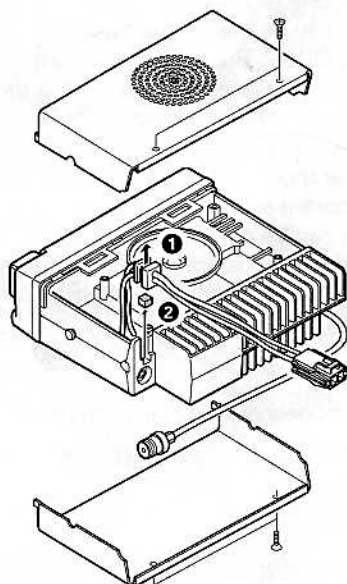

Fig. 1
1. Remove the upper and lower halves of the transceiver case, and lift the DC cord bushing (1) from the chassis.
2. Remove the pad as shown in Figure 1 (2).
3. Insert the KCT-19 cable (3) into the chassis (4).
- The wire harness band (5) must be inside the chassis.
4. Replace the DC cord bushing (6).